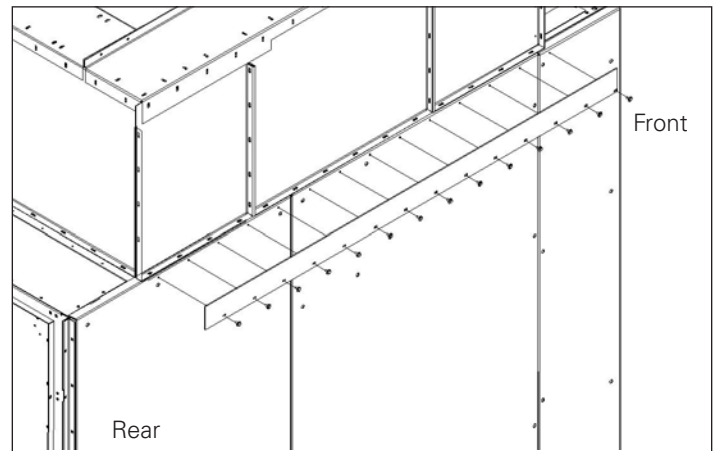

Figure 15. Installation of the Front to Rear Gas Deflector (108-Inch Deep Switchgear).
- B. Tighten two self tapping screws, then insert and tighten the remaining self tapping screws (See **Figure 15**).